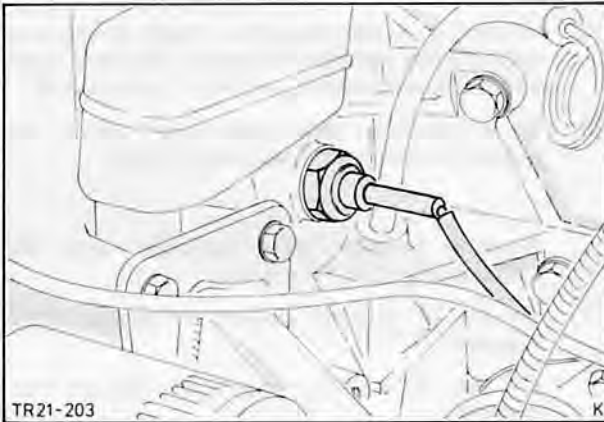

Fig. 11. Oil pressure switch ('B' engine)
1. Remove oil pressure switch lead connector and remove oil pressure switch, Fig. 11. In case of pressure gauge, remove pressure line and connector.